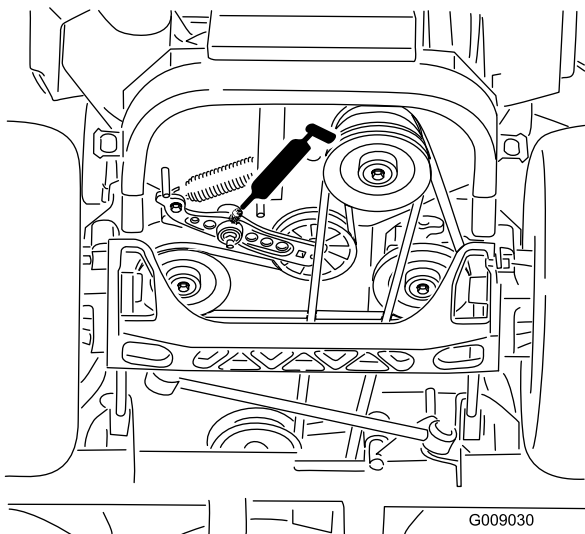

Figure 42
5. Grease the drive belt idler arm (Figure 42).